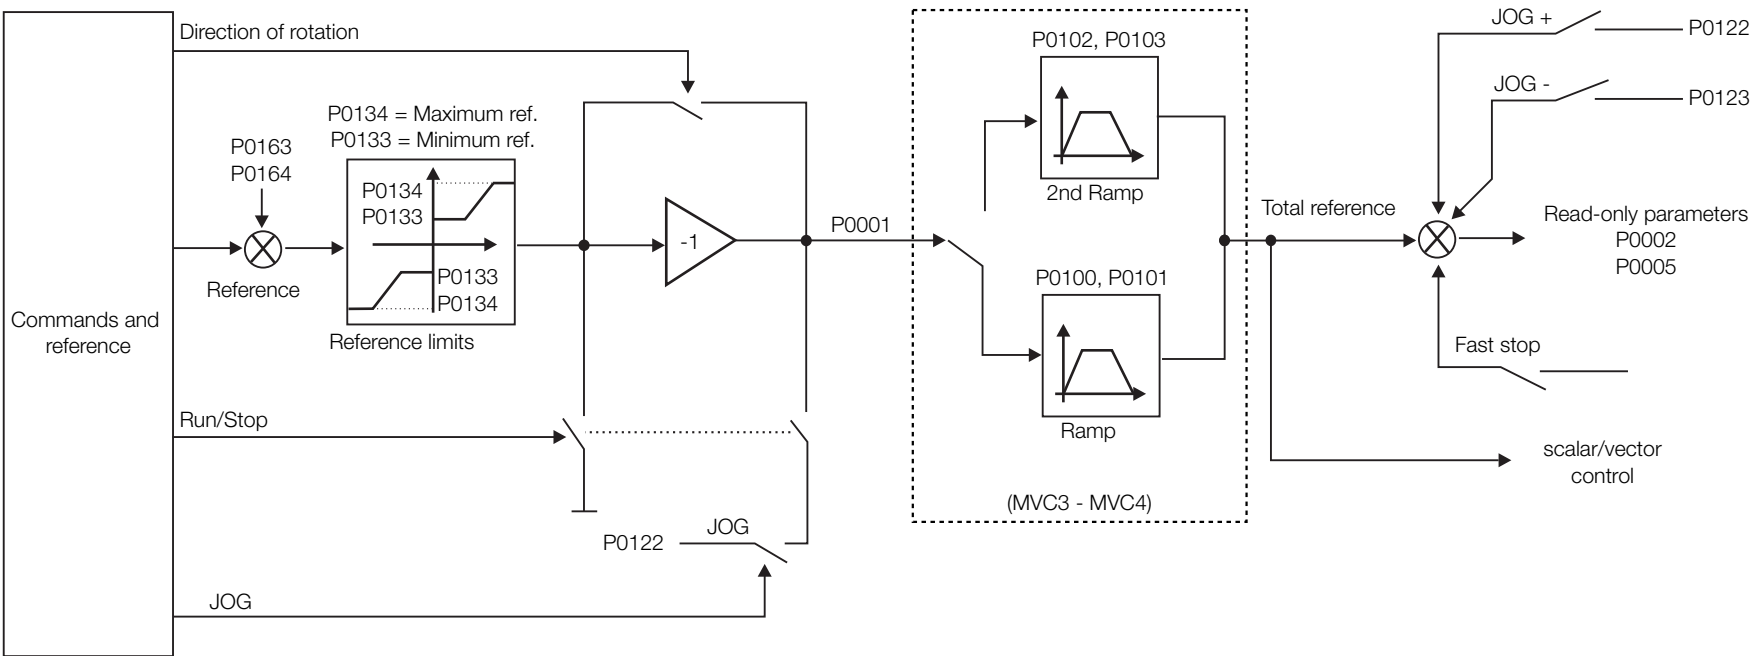

Figure 5.24 – Speed reference block diagram
- See Figure 5.24 on page 5-39.